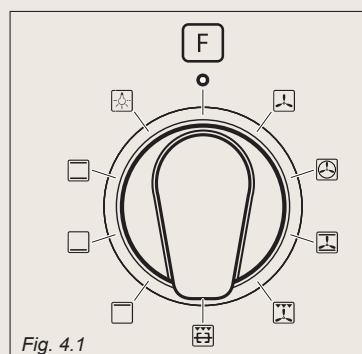

Fig. 4.1
**Function selector knob (fig. 4.1)**